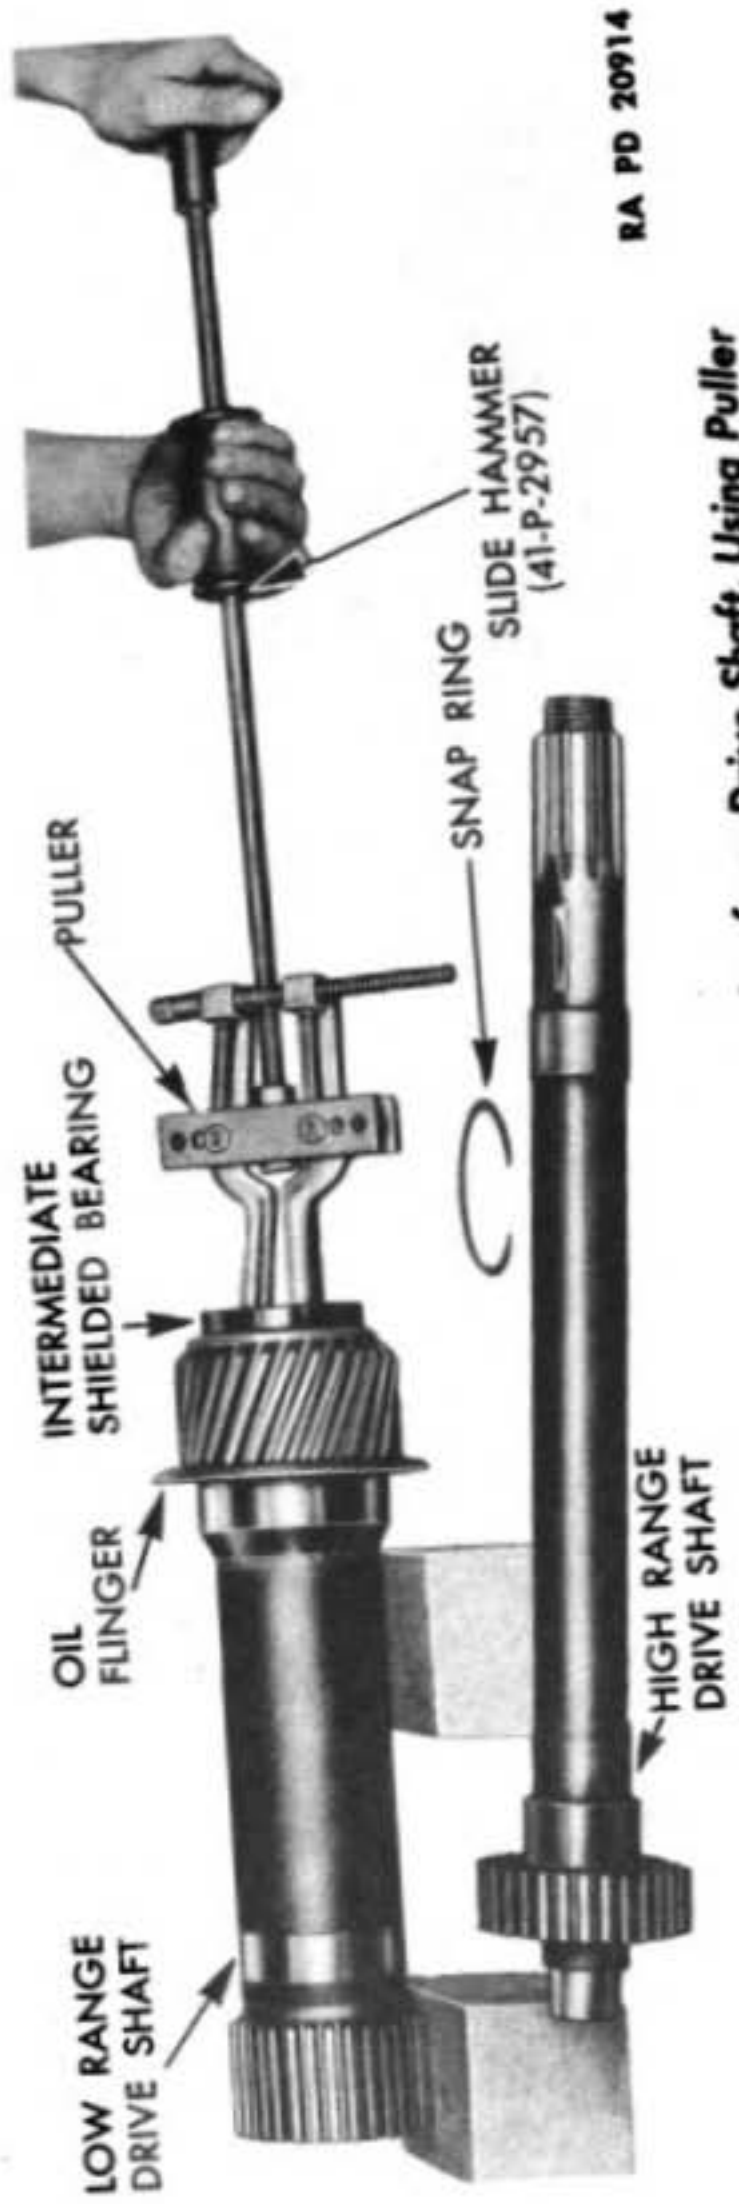
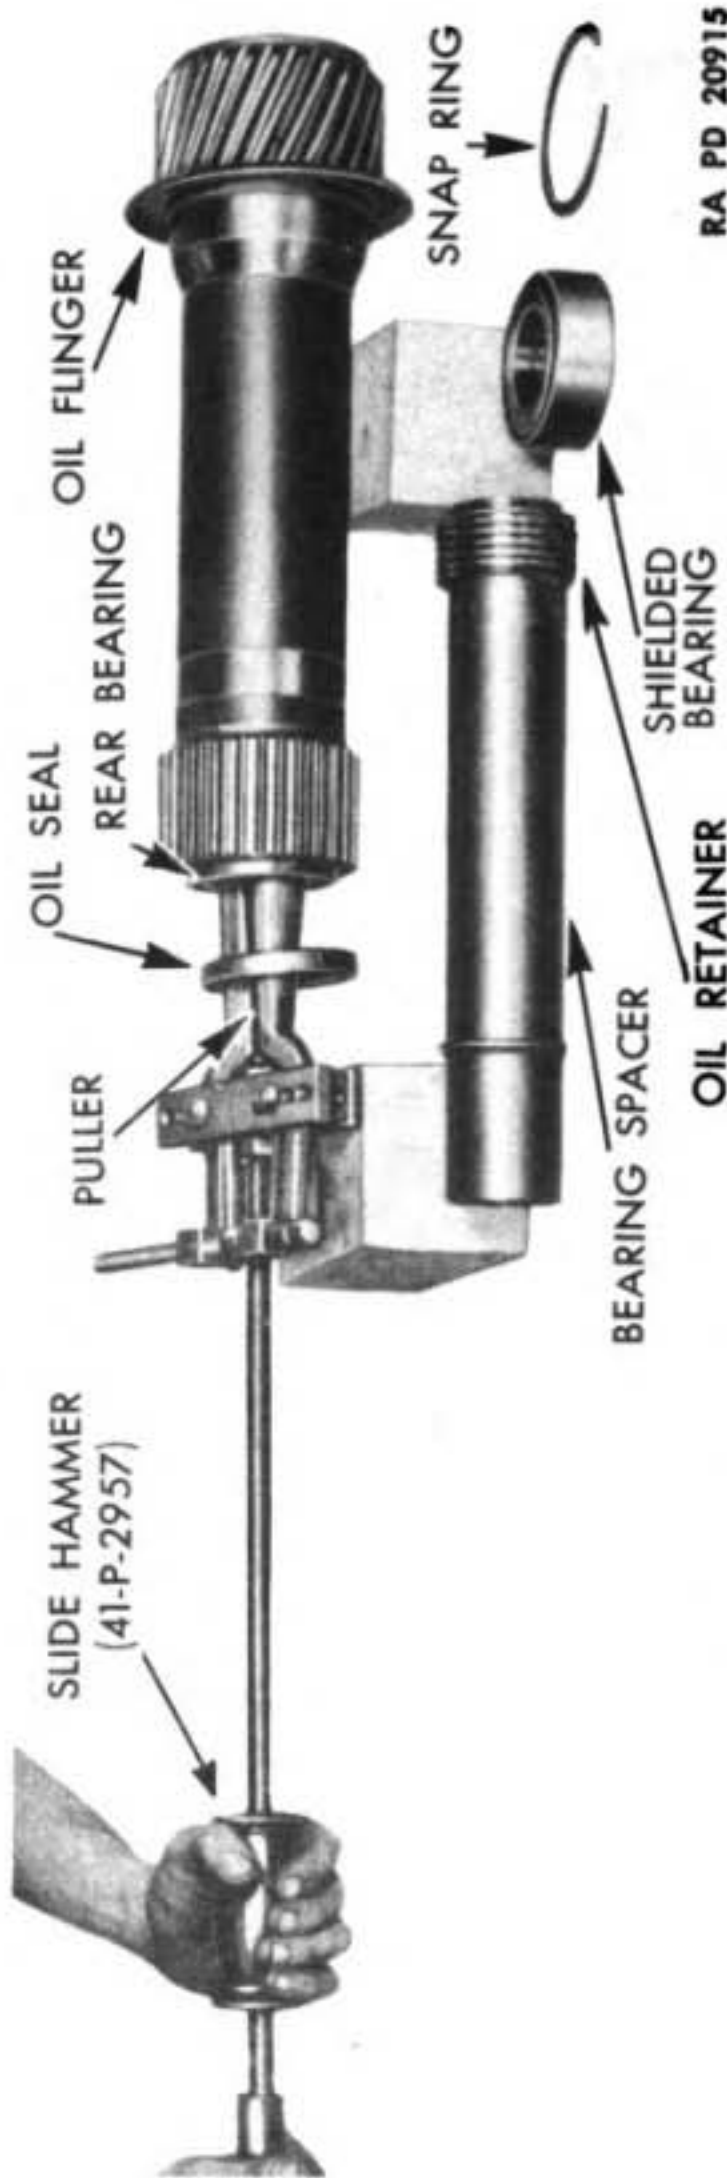

Figure 186 — Removing Shielded Bearing from Drive Shaft, Using Puller
Figure 187 — Removing Rear Bearing from Drive Shaft, Using Puller
f. **Disassemble High and Low-Range Drive Shaft Assembly.** Wrap a piece of heavy paper or a light piece of tin over drive teeth on low and high-range shafts, to prevent damage to lip of inner oil seal (fig. 183), and remove retainer and oil seal from drive shafts. Use a puller (41-P-2905-60) to remove low-range gear from high-range drive shaft (fig. 184). Remove Woodruff key from high-range drive shaft. Remove high-range drive shaft from bearings in low-range drive shaft by dropping threaded end of shaft on block of hard wood (fig. 185). Remove snap ring which retains intermediate shielded bearing in low-range drive shaft. Partially remove shielded bearing from inside of shaft by tapping end of low-range drive shaft on a block of hard wood. Install bearing puller (41-P-2906-15) (fig. 186), and remove intermediate shielded bearing from low-range drive shaft. Remove bearing spacer from drive shaft. Install bearing puller (41-P-2906-15) (fig. 187) in rear bearing, and pull oil seal and rear bearing from low-range drive shaft. If puller (41-P-2906-15) is not available the bearing can be removed by combining the jaws from puller (41-P-2905-60) and slide hammer from puller (41-9-2957) taking care to avoid damaging threads on slide hammer.